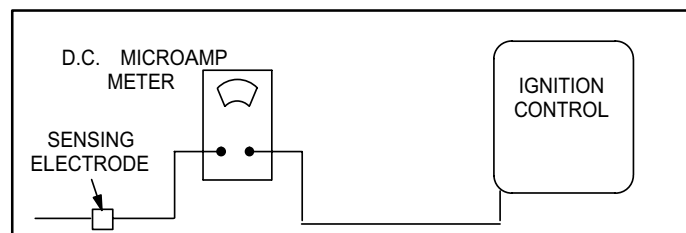

FIGURE 34
- 2 - Remove lead between sensing electrode and ignition control. Install a microamp meter in series between the sensing electrode and the control. See figure 34.